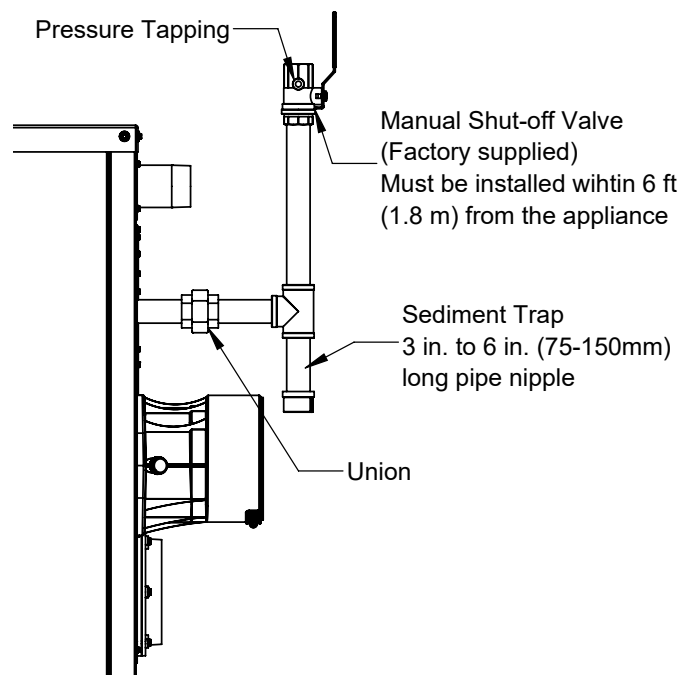

Figure 20: 400-1000L Gas Connection
1. A manual shutoff valve is shipped loose with the appliance and should be installed as shown in Figure 20 with a sediment trap.